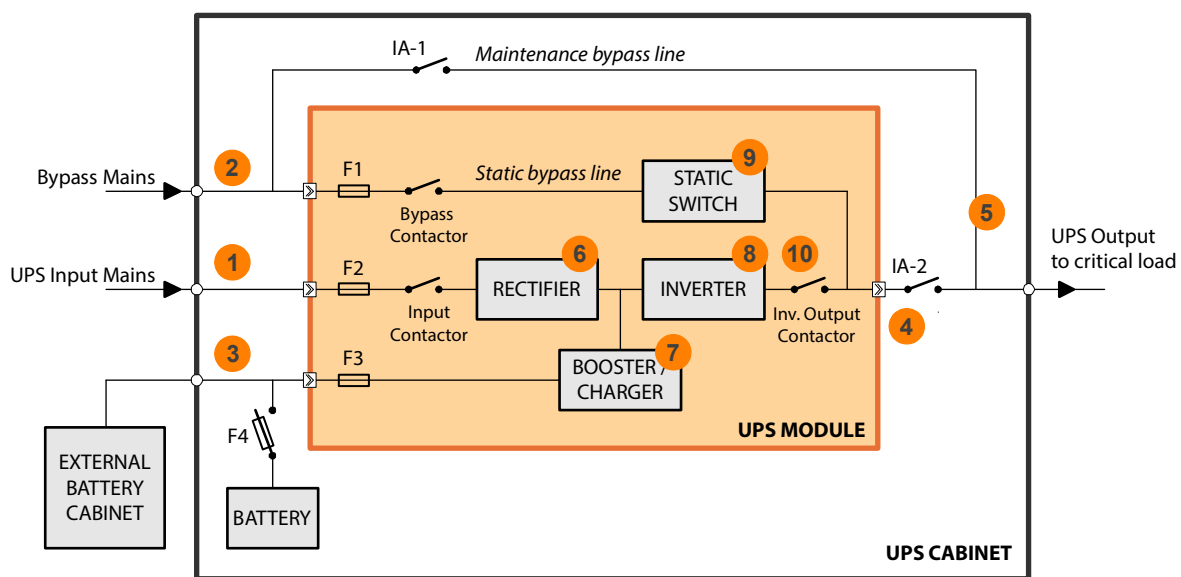

Figure 2.3 Kohler PW 9000DPA module
The UPS input mains and bypass mains are connected to an input power terminal block located in the lower part of the UPS cabinet. Both inputs require a 3ph+N feed but, although the two inputs are shown as being separate in Figure 2.3, in a standard installation the input mains terminals (1) and bypass mains terminals (2) are usually linked at the cabinet’s input power terminal blocks so only one mains supply feed is required.